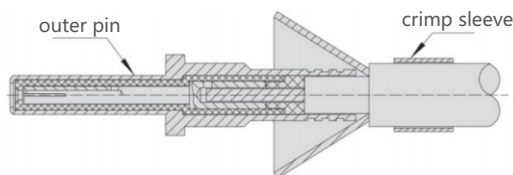

Figure 1.6
- ⑥ As shown in Figure 1.6, install the outer pin onto the crimped center contact (with insulators fitted), until the internal contact and the insulators are fully abutted.